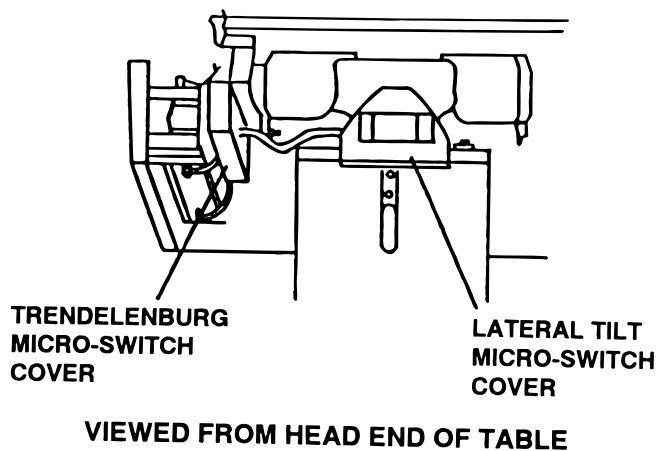

Figure 6-15. Micro-Switch Covers
2. Remove micro-switch covers (refer to figure 6-15), carefully loosen the switch retaining screws and adjust the switches as needed. See figure 6-16.